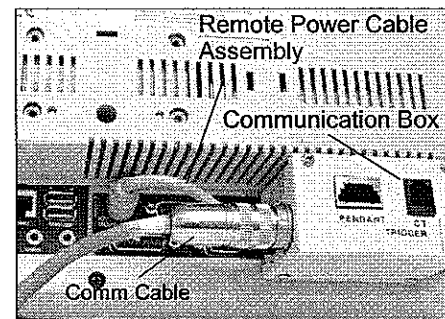

Figure 4-9: Remote Comm. Box Ass'y
- a. Disconnect the communications cable from the Remote Communication Box Assembly (see Figure 4-9).
- b. Disconnect the Remote Power Cable Assembly from the KB/Mouse port in back of the Remote Control (see Figure 4-9).